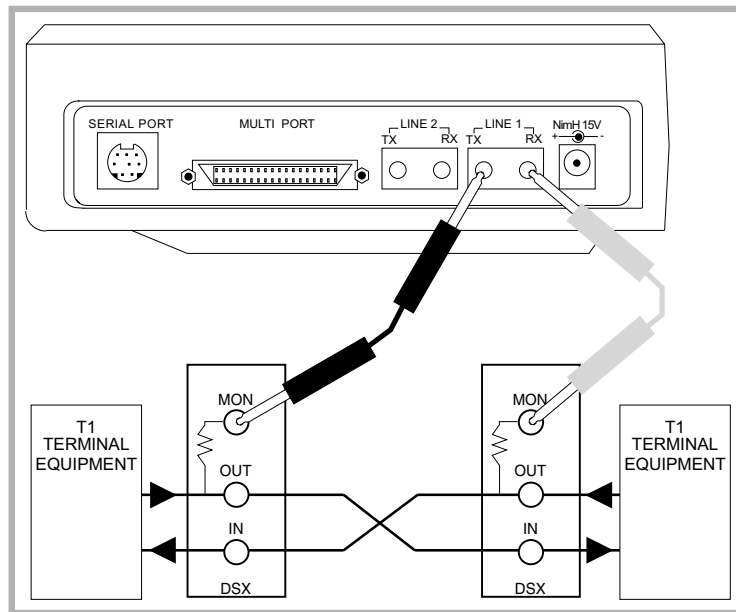

Figure 173 Monitoring an In-service Circuit
3. Connect the SunSet T10's Line 1 and 2 Rx jacks to the MON jacks as shown in Figure 173. Press the HISTORY key on the keypad to clear any blinking history lights.